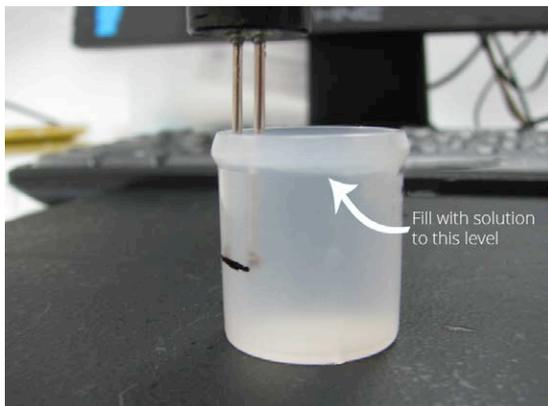

Fig. 33 — The vial should be filled to a volume of 5mL.
2. Fill (6) 5mL vials ( WPI #**14176**). Dispense 5mL of each concentration into each of the six vials. It might be useful to label each of the vials with the concentration to avoid confusing them when performing the test (Fig. 33).